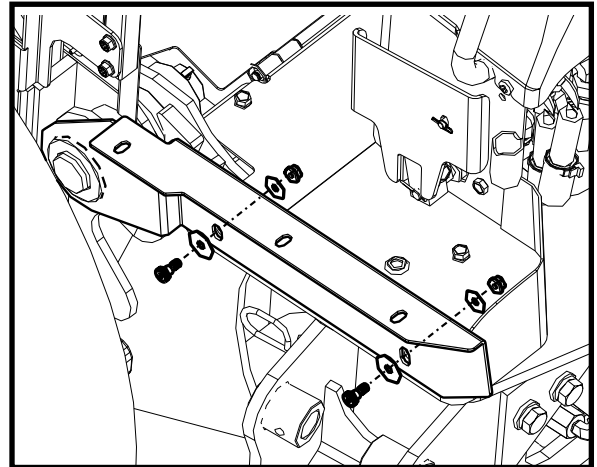

Figure 18.1: Backhoe Cab Footers
- 18.1 Fasten the backhoe cab footers to the backhoe floor board sides (see Figure 18.1, outriggers hidden for clarity). Place the 3/8 fender washer over the shoulder screw, then sandwich the 5/16 fender washer between the backhoe cab footers and the backhoe floor board sides. The new footers should then be able to float a little side to side. Tighten hardware.